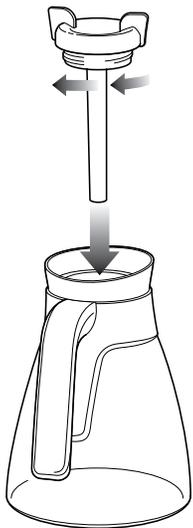

Fig. 7
- 5 Twist the brew-through lid clockwise onto the glass carafe to lock into place. **(Fig.7)**